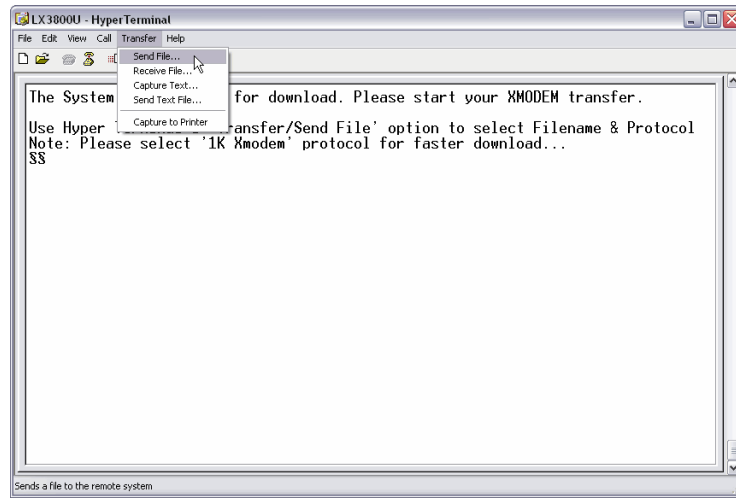

Figure 39. HyperTerminal Window
6. From the HyperTerminal main window, select **Send File** from the Transfer menu, as shown in Figure 39.